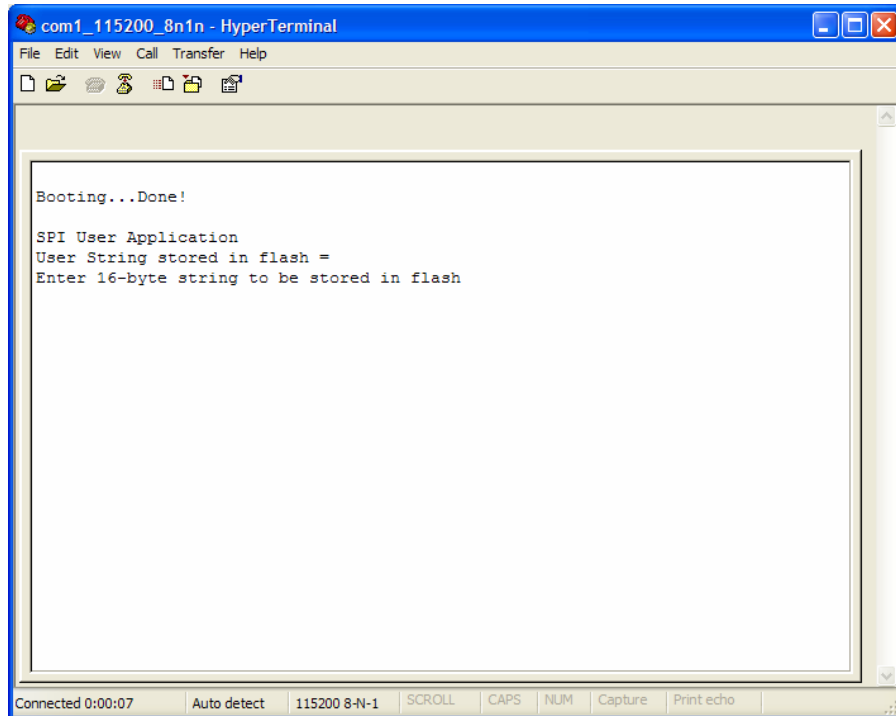

Figure 22 – Configured and Bootloaded from SPI Flash
23. Turn board power on. The DONE light should go on, and you will see HyperTerminal display as shown in Figure 22.